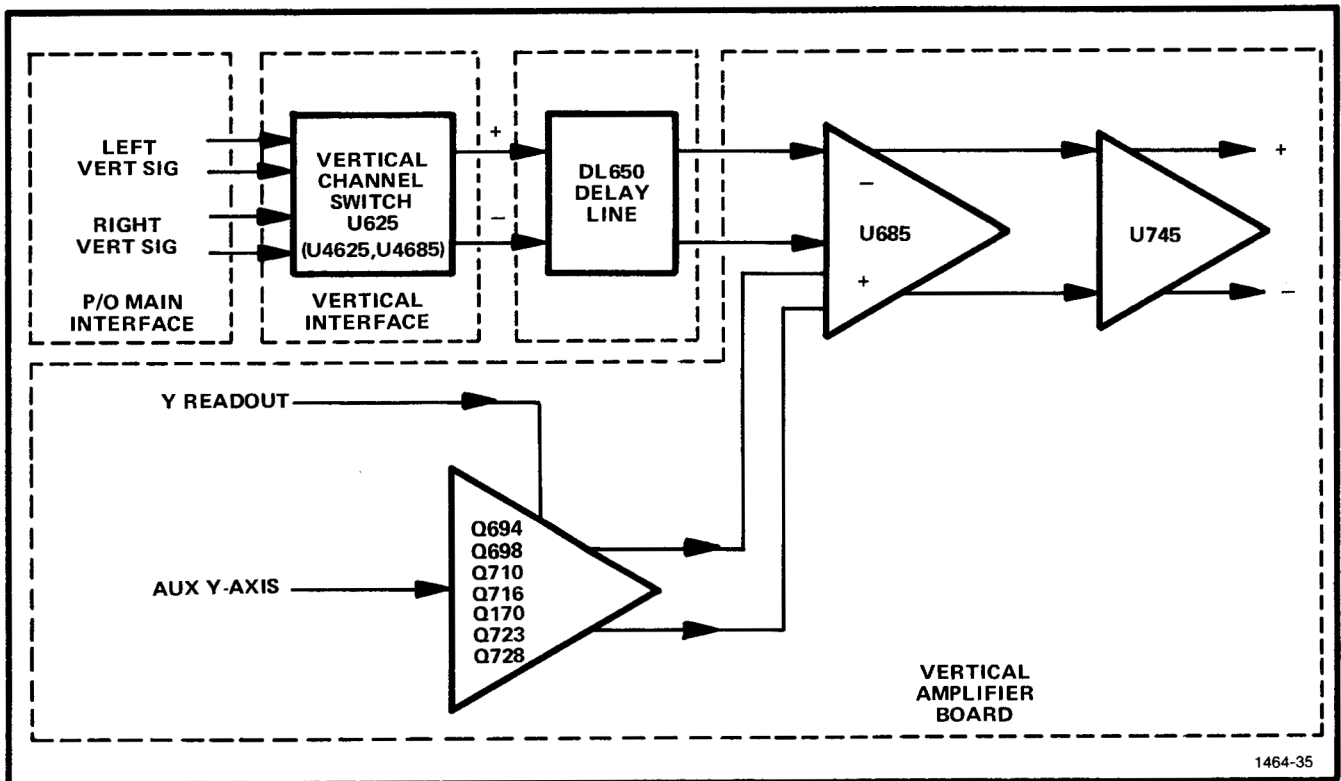

Fig. 3-20. Vertical Output Amplifier Block Diagram.
**Introduction.** The Vertical System circuit includes the vertical channel switch, a delay line, and the vertical output amplifier. The channel switch determines which vertical signal is displayed (or turns off both vertical channels), and allows the encode readout data to be displayed. The delay line provides approximately 60 nanoseconds delay for the vertical signal to allow the horizontal circuits time to initiate a sweep before the vertical signal reaches the vertical deflection plates of the CRT. This delay allows the vertical amplifier to display the leading edge of the signal originating the trigger for the sweep. The vertical output amplifier stage provides the final amplification of the vertical signal to drive the vertical deflection plates. Figure 3-20 shows a detailed block diagram of the Vertical System.